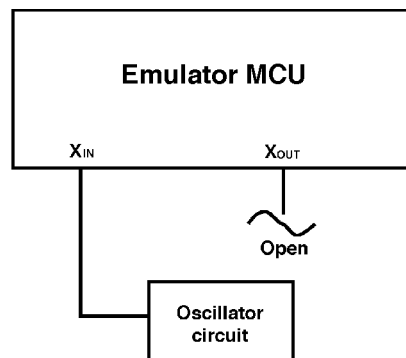

Figure 3.1 External oscillator circuit
- To operate the emulation pod with an external clock, construct the oscillator circuit as shown in Figure 3.1 in the target system and input the oscillator output at 50% duty (within the operating range of the emulator MCU) into the  $X_{IN}$  pin. And the  $X_{OUT}$  pin should be open (same for  $X_{CIN}$ ).